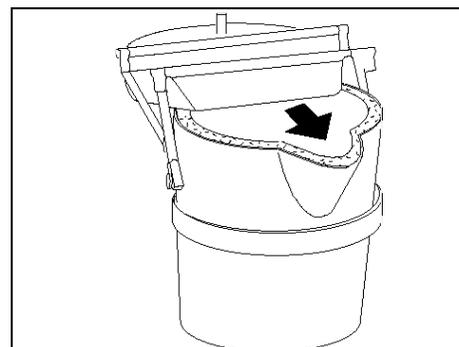

Figure 6. Close Ladle Cover
Step 6: After the ladle is filled with molten metal, close the cover of your ladle and transport to pouring area. (See Figure 6.)